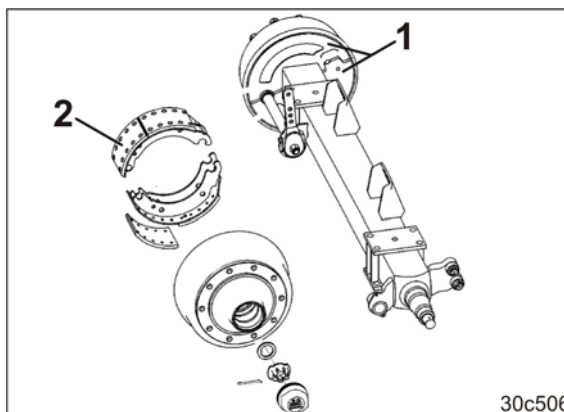

Fig. 322
1. Unscrew the two cover plates (Fig. 322/1) on the inside of the brake drum.
Penetrating dirt may clog the brake linings (Fig. 322/2), which considerably reduces the braking power.